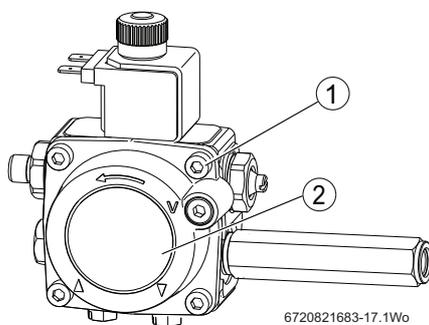

Fig. 86 Pump filter access
- ▶ Refer to figure 86 and remove the oil pump internal filter, clean in Kerosene and reassemble.